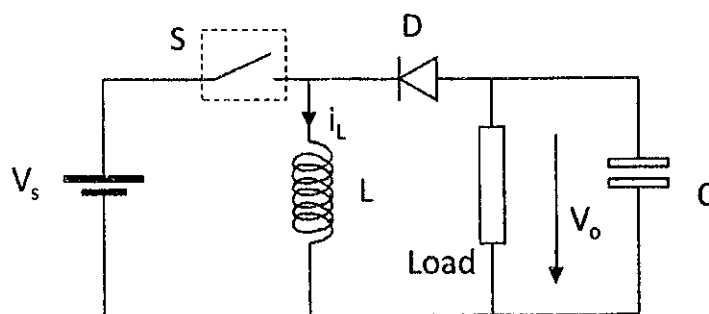

Figure Q3
Figure Q3 shows the circuit diagram of a buck-boost converter.
- v. Redraw the circuit diagram shown in Figure Q3 with a snubber circuit and state how it functions during the operation. (5 marks)